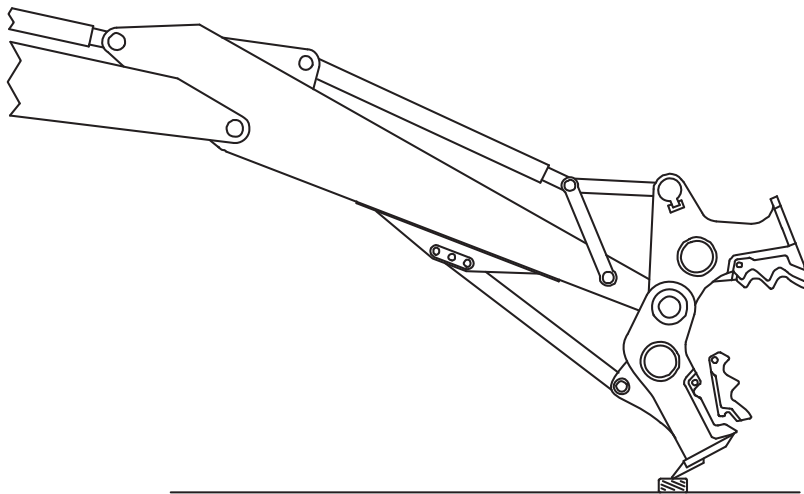

FIGURE 5-4
8. When this jaw is done, start up the base machine. With all personnel standing at a safe distance, lift the attachment and put it out in front of the excavator (figure 5-4). Set the attachment back down on the ground and make sure it will not drop or close.